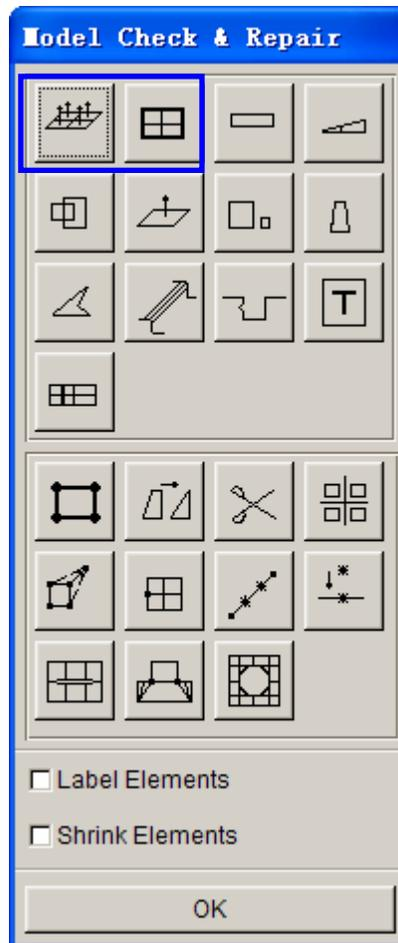

Figure 32: Mesh check &amp; repair dialog box
1. Select **Auto Plate Normal** from the **Model Check/Repair** dialog box shown in Figure 32. A new dialog will be displayed.